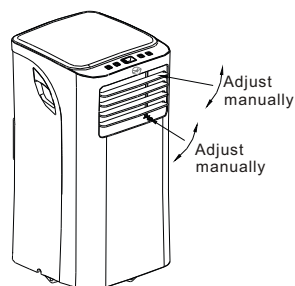

Fig.19
- The louvers can be adjusted manually. (Fig 19)